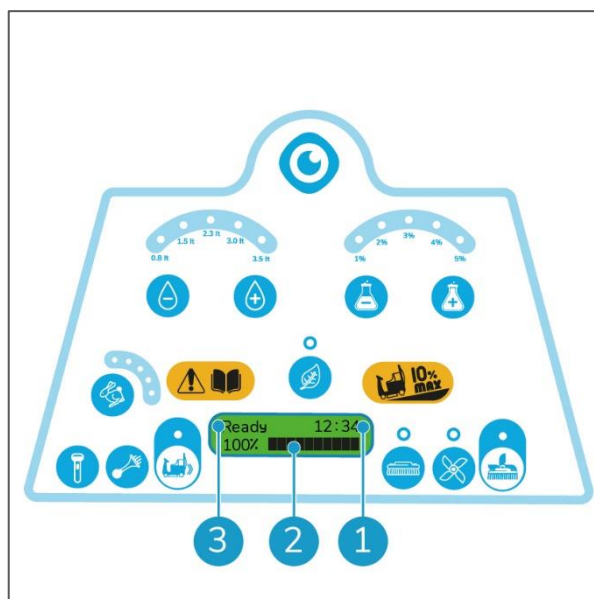

Figure 5
1. Indicate battery level (Figure 5, pos 2).
2. Indicate operation time in hours and minutes (Figure 5, pos 1).
3. Indicate i-drive "Ready" (Figure 5, pos 3).